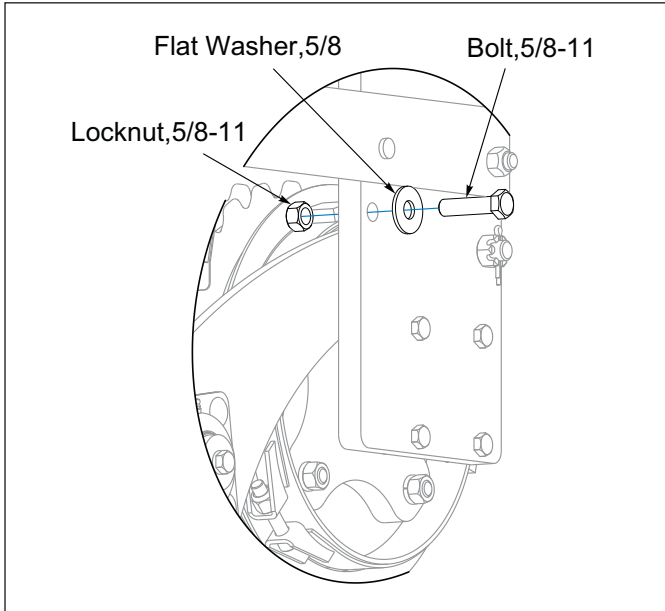

Figure 2-22: Shipping Bolt
15. On the RH side of each Seeder Unit, remove the 5/8-16 Shipping Bolt that secures the Seeder Units Rear Roller during shipping. See Figure 2-22.